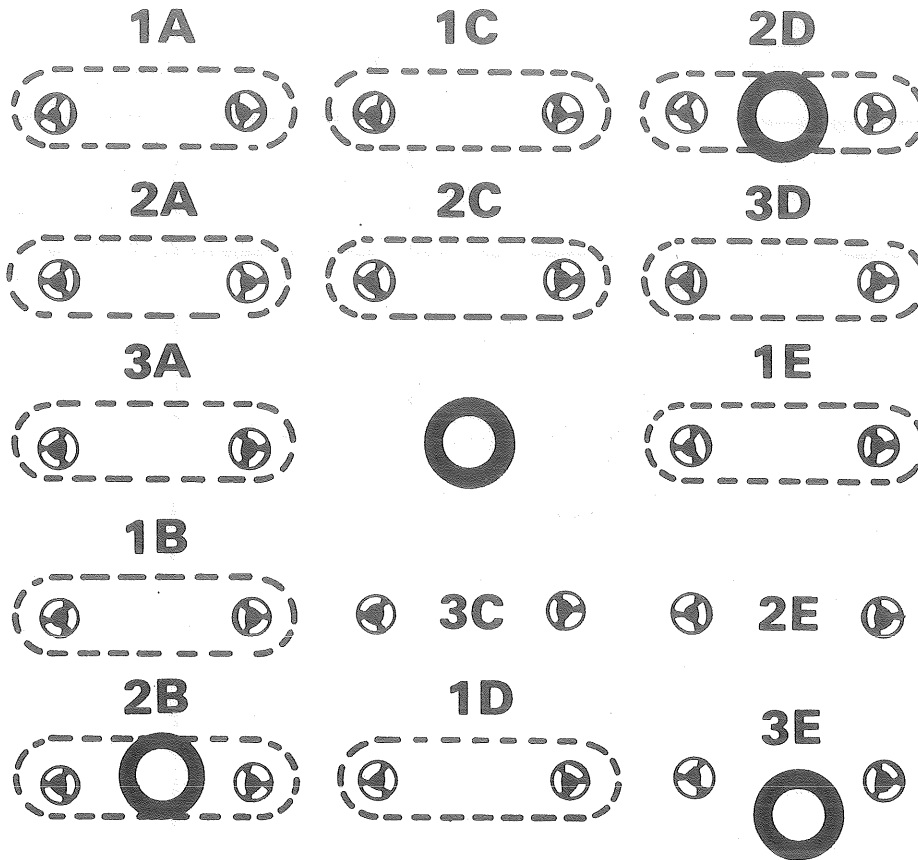

Figure 2. Crystal socket locations.
- b. Plug appropriate crystal into crystal mounting board as shown in figure 2.